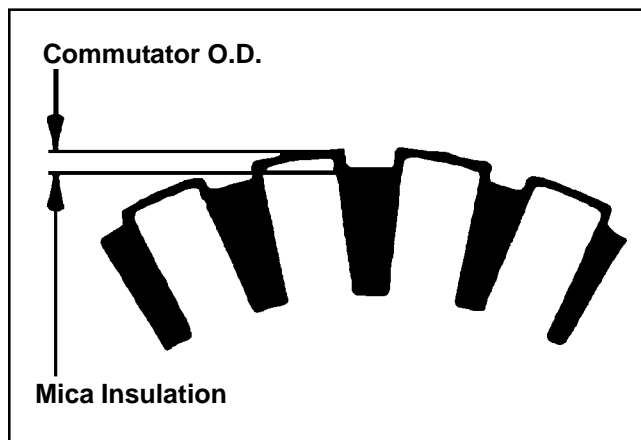

Figure 8-53. Commutator Mica Inspection.
- Clean and inspect the commutator (outer surface). The mica insulation must be lower than the commutator bars (undercut) to ensure proper operation of the commutator. See Figure 8-53.